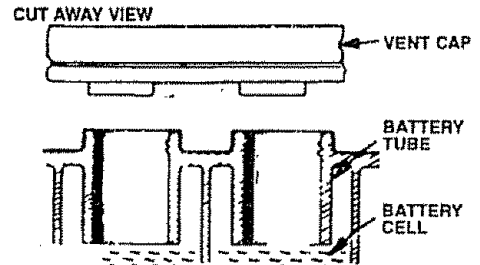

FIGURE 1
- b. Fill each cell with battery acid. Add the acid until it reaches the bottom of the vent wells (Fig. 1). NOTE: DO NOT OVERFILL. OVERFILLING WILL RESULT IN DAMAGE TO TRACTOR.